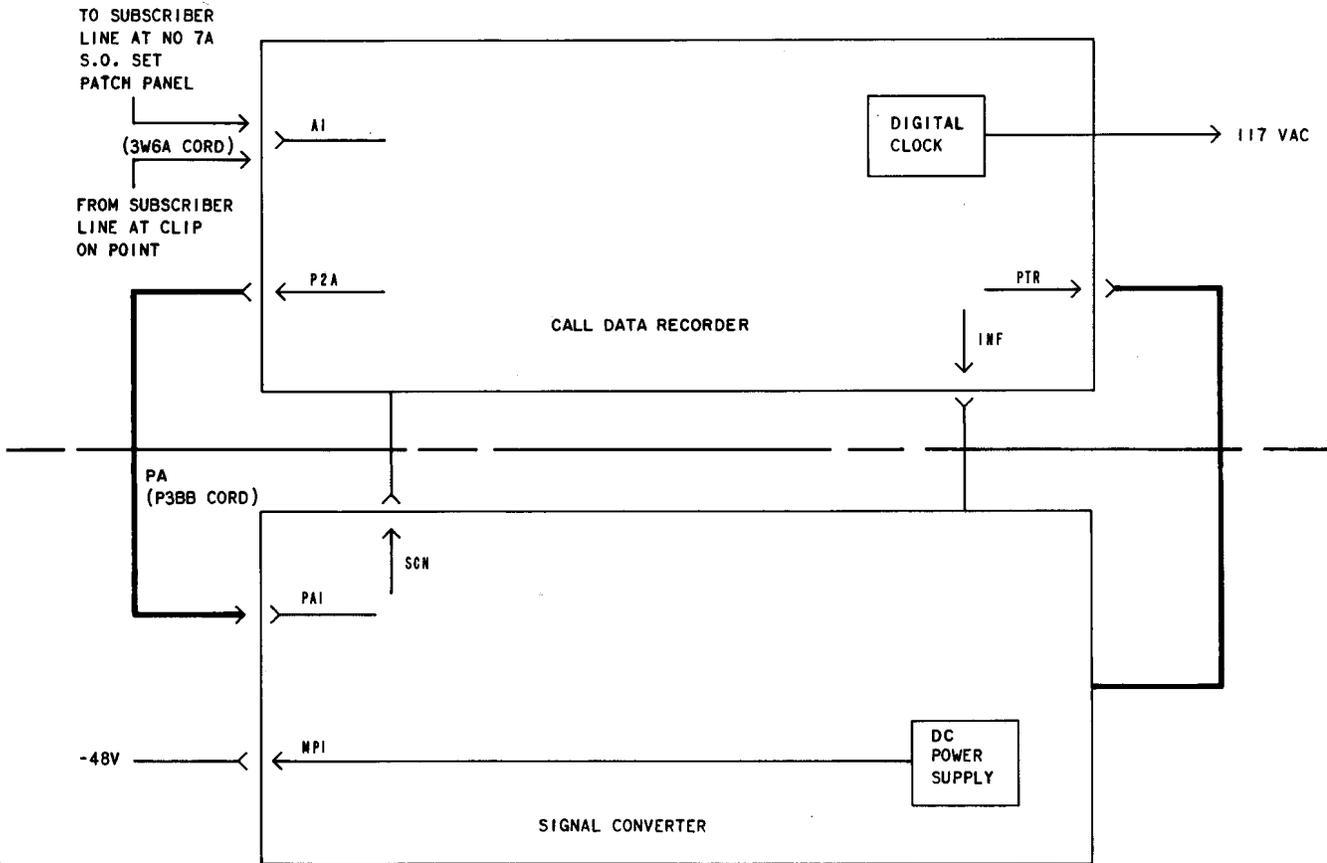

Fig. 1—Connections For Special Studies Set No. 1A
2.01 The portable Special studies Set No. 1A consists of two units: the Call Data Recorder (CDR) circuit and a Signal Converter (SIG CONV) circuit, interconnected by cables and a power cord (Fig. 1). These units when connected to a single subscriber line provide a printed record of call information. The number called and the date and time of call origination are recorded on impact sensitive tape.
3.01 Make the following connections to and between the units of the set before operating the Special Studies Set No. 1A (Fig. 1).